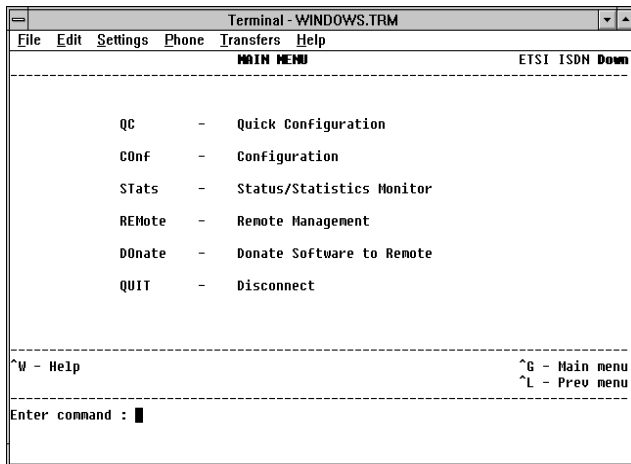

Figure 1-13 The Main Menu Screen
- 3** Enter the default password, **PASSWORD**, using uppercase characters. The Main Menu appears as shown in Figure 1-13.